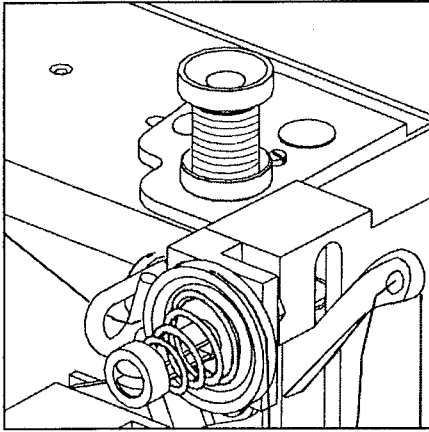

Fig.6
10. ADJUSTMENT OF PRESSER FOOT PRESSURE (Fig.6)